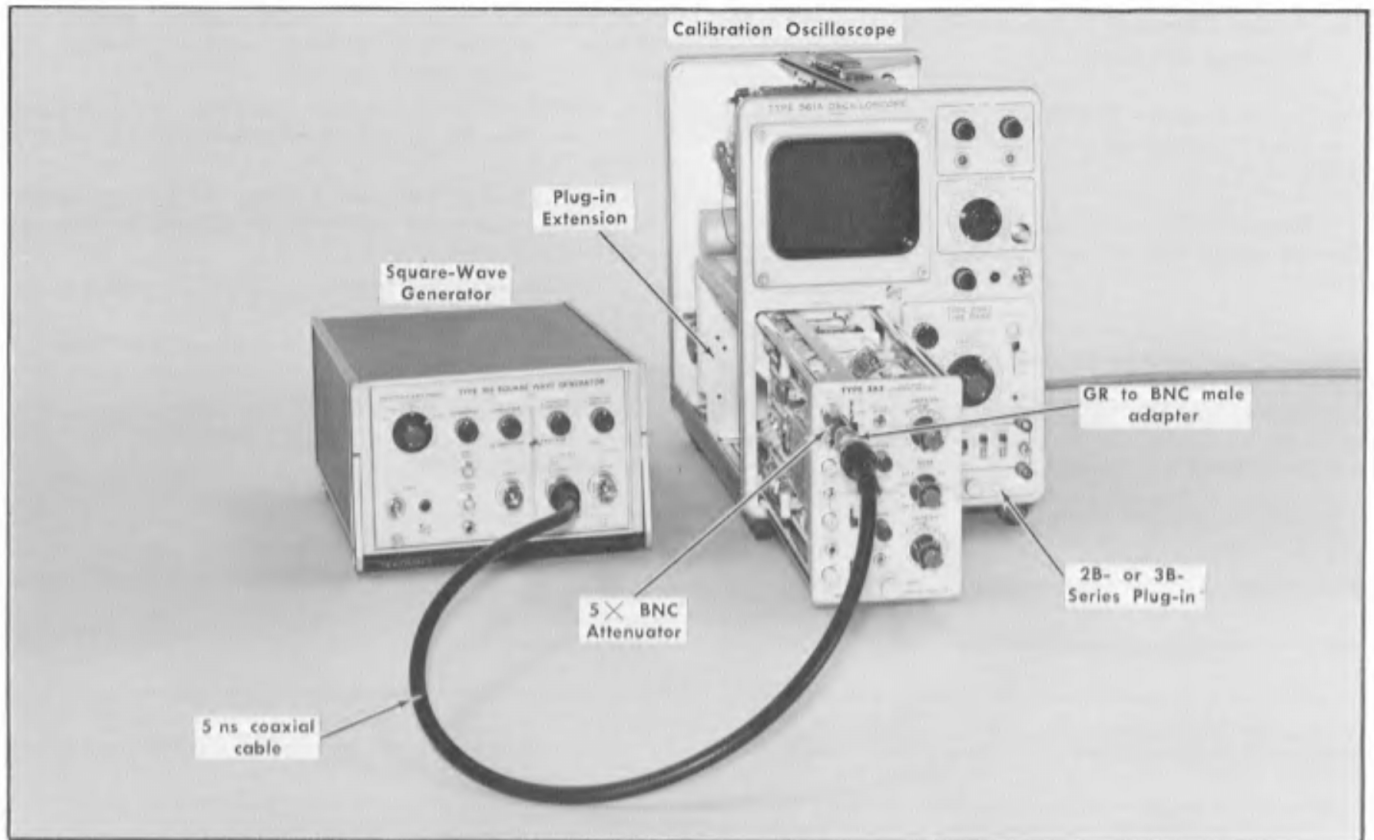

Fig. 6-10. Initial test equipment setup for steps 20 and 21.
- a. Test equipment setup is shown in Fig. 6-10.